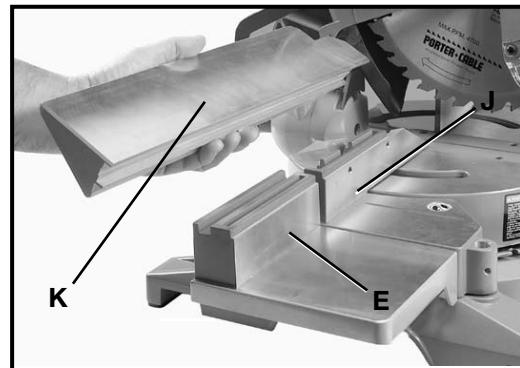

Fig. 7F
6. Position the fence slide (K) Fig. 7F, in position on top of saw fence (J) and fence slide support (E). Slide fence slide (K) back and forth several times to check alignment of fence slide support (E). Make any necessary final adjustments to fence slide support.